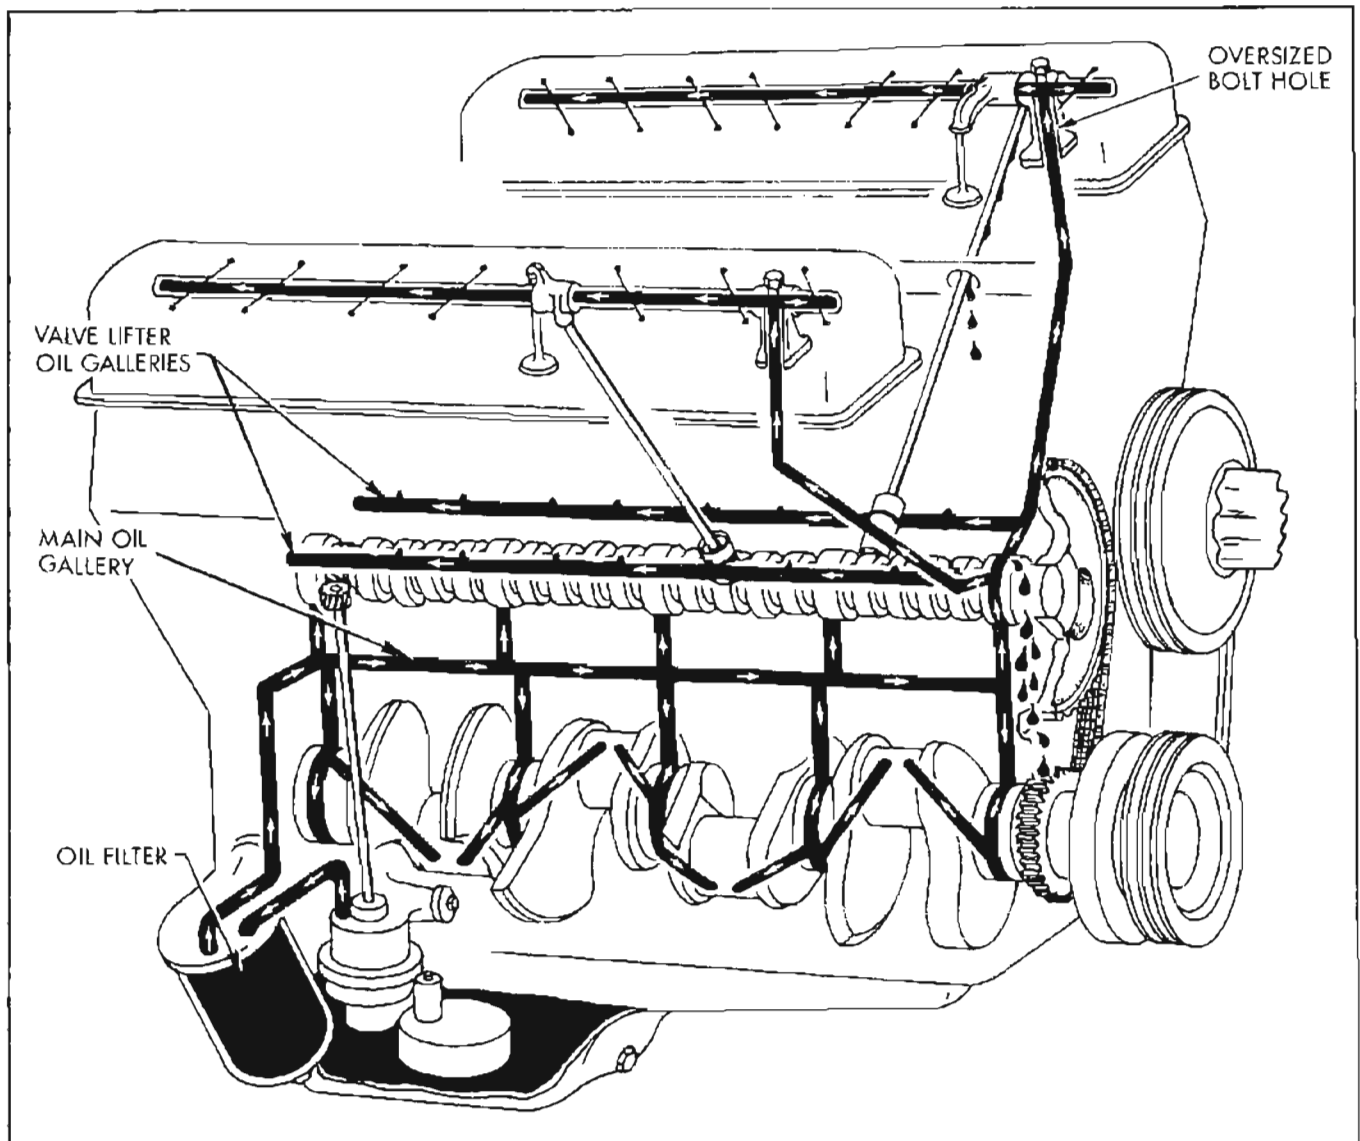

Figure 2-14--Schematic Diagram of Engine Oil Flow (401 & 425 Cu. In. Engines)
oil is supplied under full pressure to crankshaft, connecting rods, and camshaft bearings, and is supplied under controlled volume to the valve lifters, rocker arm bearings, and push rods. All other moving parts are lubricated by gravity flow or splash. See Figure 2-14.
**Main Oil Gallery.** The main oil gallery runs full length of the crankcase in the angle below the camshaft. Through connecting passages drilled in the crankcase it distributes oil at full pressure to all crankshaft and camshaft bearings, from which oil is then distributed to all other working parts of the engine. See Figure 2-14. See 2-15 for 300 cu. in. engine.
**Valve Lifters and Oil Galleries.** Oil holes in the crankcase and camshaft front bearing align with a groove in the camshaft front bearing journal which meters the flow of oil from the main oil gallery to the valve lifter oil gallery in each bank of cylinders. The drilled oil gallery, running full length of each cylinder bank, cuts into the lower sides of all valve lifter guide holes to supply an adequate volume of low pressure oil to each hydraulic valve lifter. Oil enters each lifter through grooves and holes in the lifter body and the plunger. See Figure 2-14.
**Rocker Arms, Valves, and Push Rods.** The rocker arms and valves on each cylinder head are supplied with low pressure oil from the valve lifter oil gallery through connecting passages drilled in the front end of cylinder block and head. See Figure 2-14.